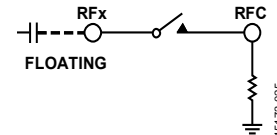

Figure 54. Series Capacitor Directly Connected to MEMS Switch
- Connecting a series capacitor directly to the switch (see Figure 54).